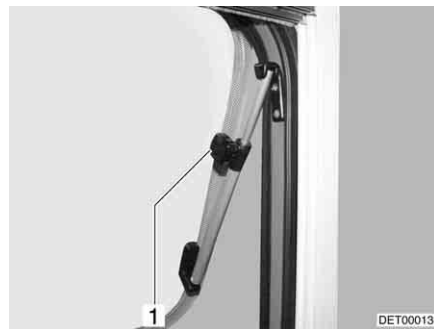

Fig. 70 Hinged window with rotary hinges
- Open the hinged window until the required position has been reached and use knurled knob (Fig. 70,1) to secure in position.
- Turn knurled knob (Fig. 70,1) until the latch is released.